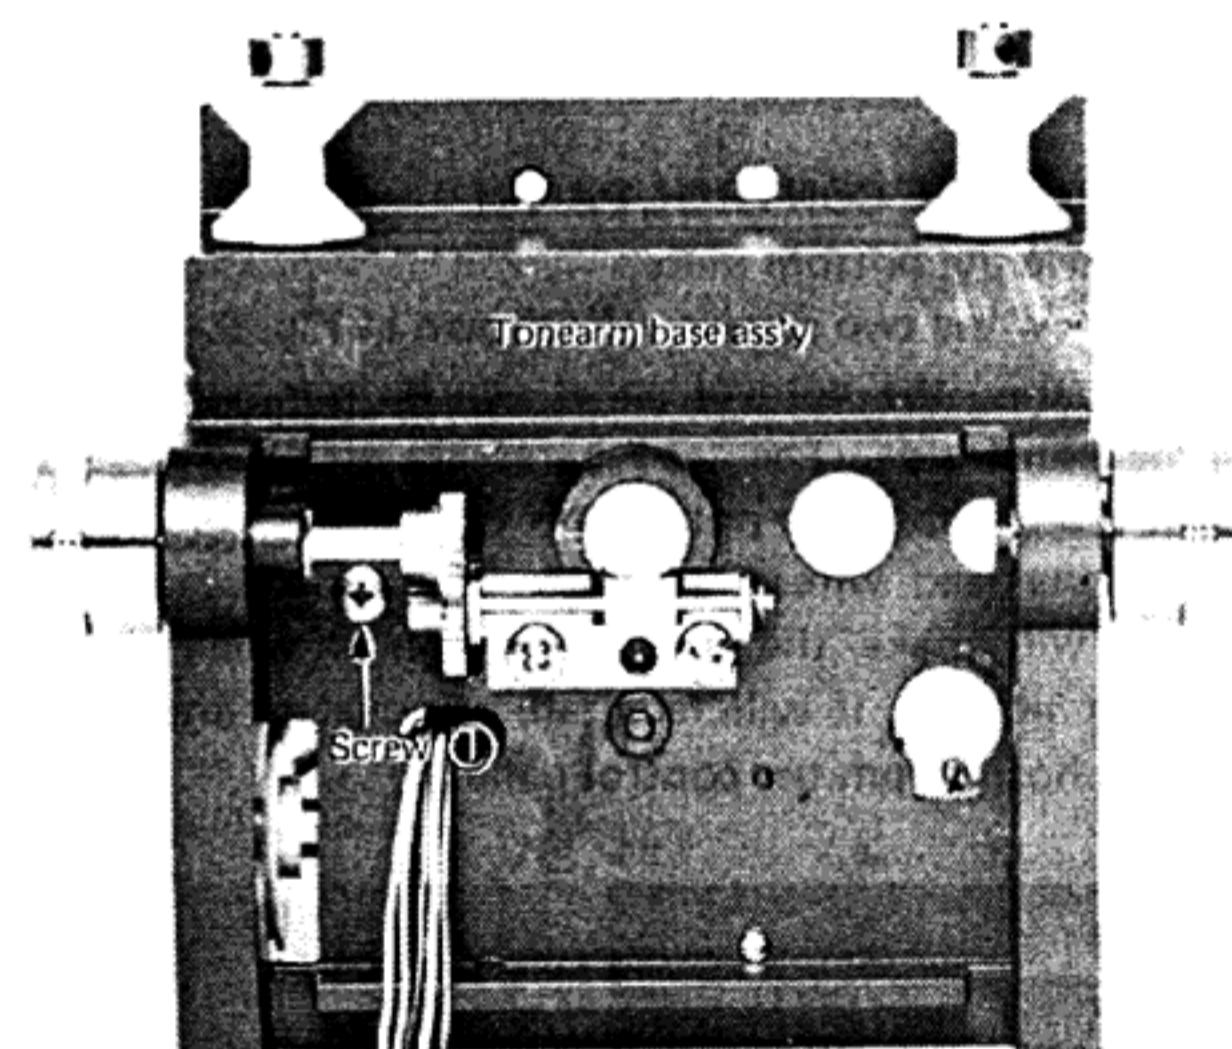

Fig. 6
- 5) The vertical drive motor can now be removed by removing screws **I** shown in Fig. 6.